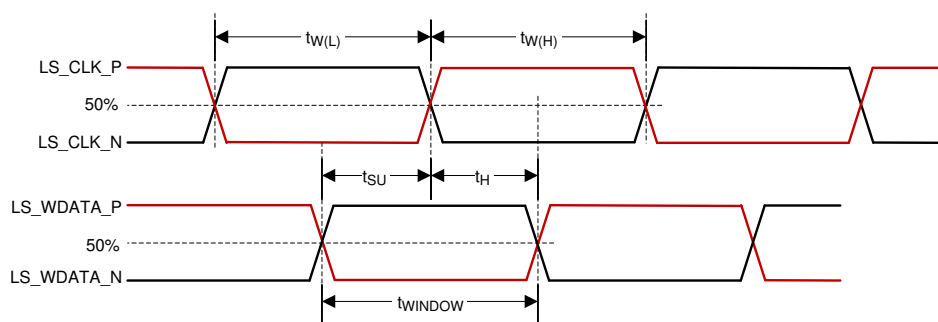

图 6-5. LSIF Timing Requirements
- (3) See Figure 6-5 for pulse duration high and low time for LSIF.
- (4) See Figure 6-5 for setup and hold time for LSIF.